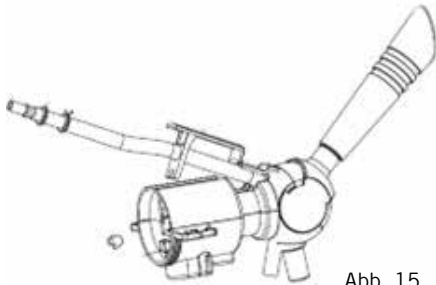

Abb. 15
6. Press the square chrome-coloured button under the hose of the tap assembly inside the appliance. Now you can raise the lid with the beer hose (Fig. 15).